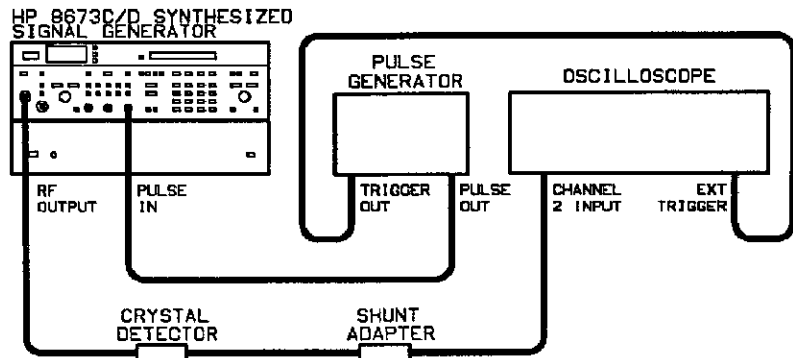

Figure 5-51. Pulse Amplitude Control Manual Adjustment Test Setup
1. Connect the equipment as shown in figure 5-51.